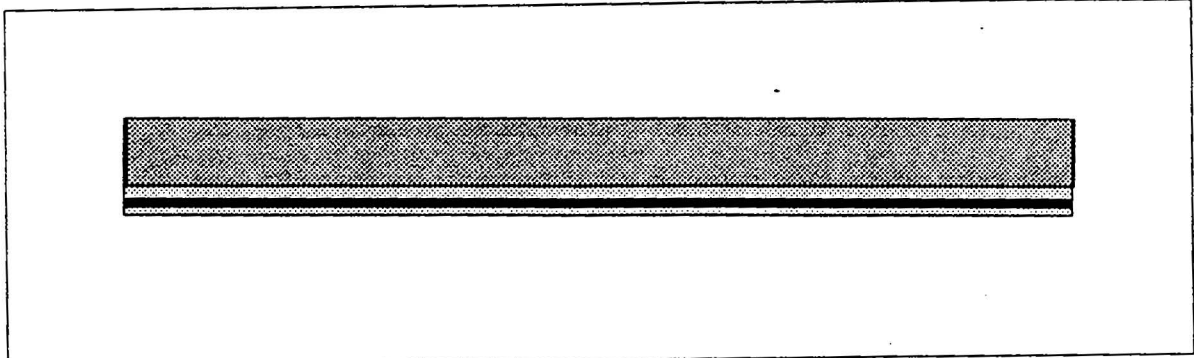

Fig. 5-8 Beam Catcher Aligned with Collection Optics Housing
4. Secure the mounting screws and verify the reflected beam is parallel with the edge of the beam catcher. Also, verify the tops of the Beam Catcher mounting blocks are parallel with the top of the collection optics housing (See Fig. 5-8).